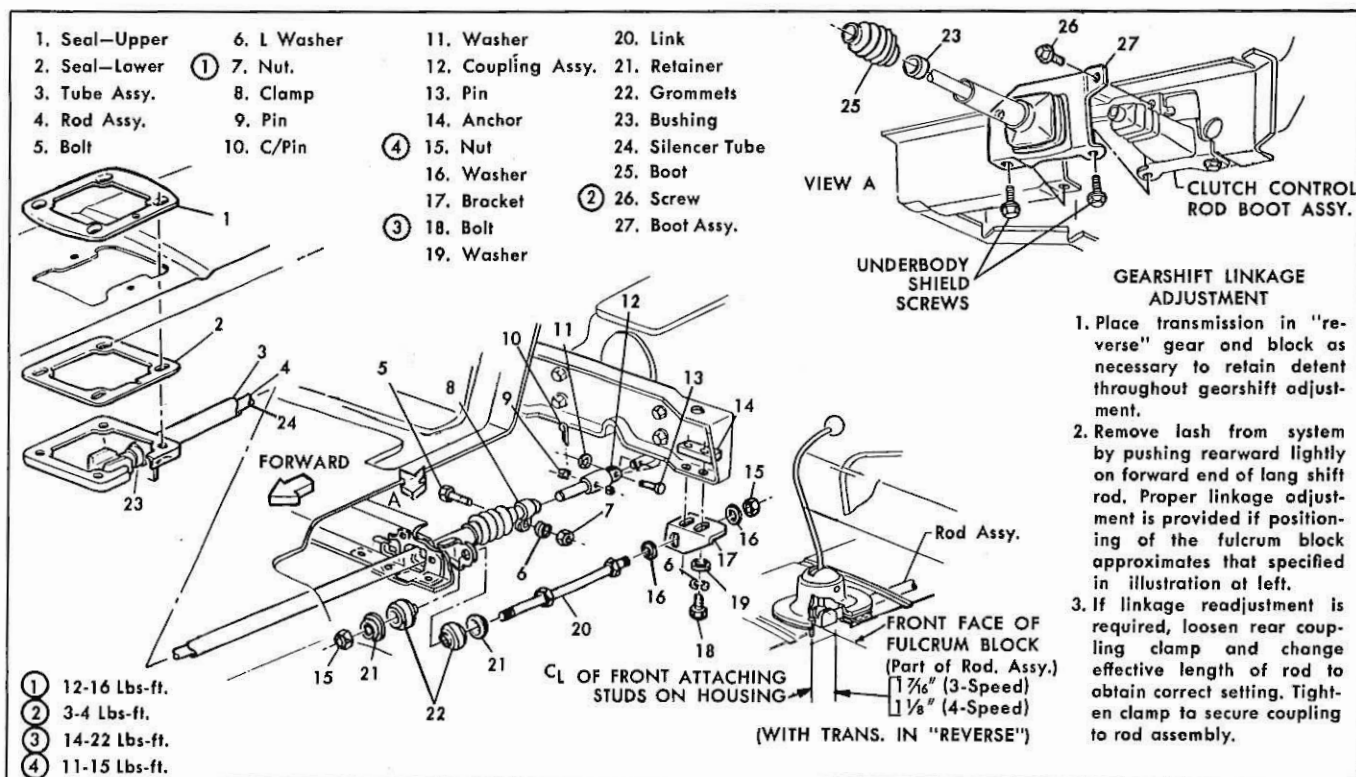

Fig 63—Corvair 3 & 4 Speed Transmission Shift Linkage Installation and Adjustment
The long shift rod back to the transmission is now covered with a paper insulator sleeve and the rod operates in a steel guide tube that extends almost its entire length. A linkage stabilizer link is connected between the transmission crossmember and a bracket welded to the shift rod guide tube (fig. 63).
8. Adjust shift linkage as shown in Figure 63. Check transmission shift in all ranges.